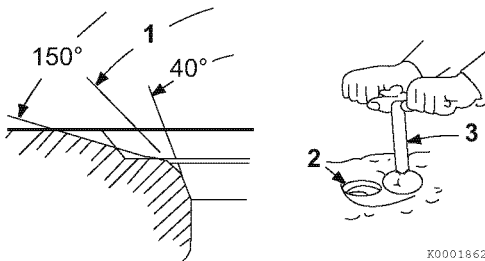

Figure 6-21
Light cutting can be performed by the use of a hand-operated cutter (Figure 6-21, (3)).
Valve seat diameter can be adjusted by top-grinding with a 150° stone to make the seat diameter smaller, and bottom-grinding using a 40° stone to make the seat diameter larger. Once the seat location has been corrected, grind and lap the seat angle (Figure 6-21, (1)) to specification. See *Cylinder Head* on page 6-4 for the service limit.